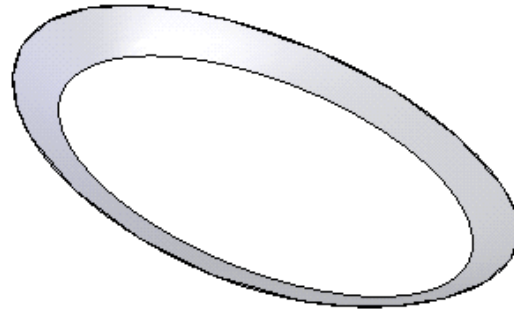

Figure 15-136 Lofted surface
8. The lofted surface after hiding the base surface is displayed in Figure 15-136. To hide the surface bodies, expand the **Surface Bodies** folder and select the surface. Now, right-click to invoke the shortcut menu. Choose the **Hide Surface Body** option from the shortcut menu.